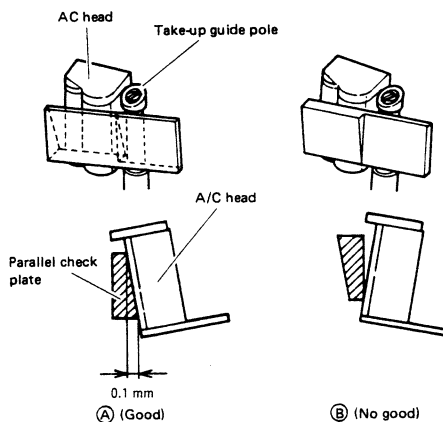

Fig. 2-22 A/C head parallel
1. As illustrated in Fig. 2-22, set the parallel check plate (PUJ50204) gently against the A/C head take-up guide pole. Confirm that inclination (A) is less than 0.1 mm.
2. Set the flat portion of the check plate gently against the A/C head. Confirm absence of space at top, as shown by (B).